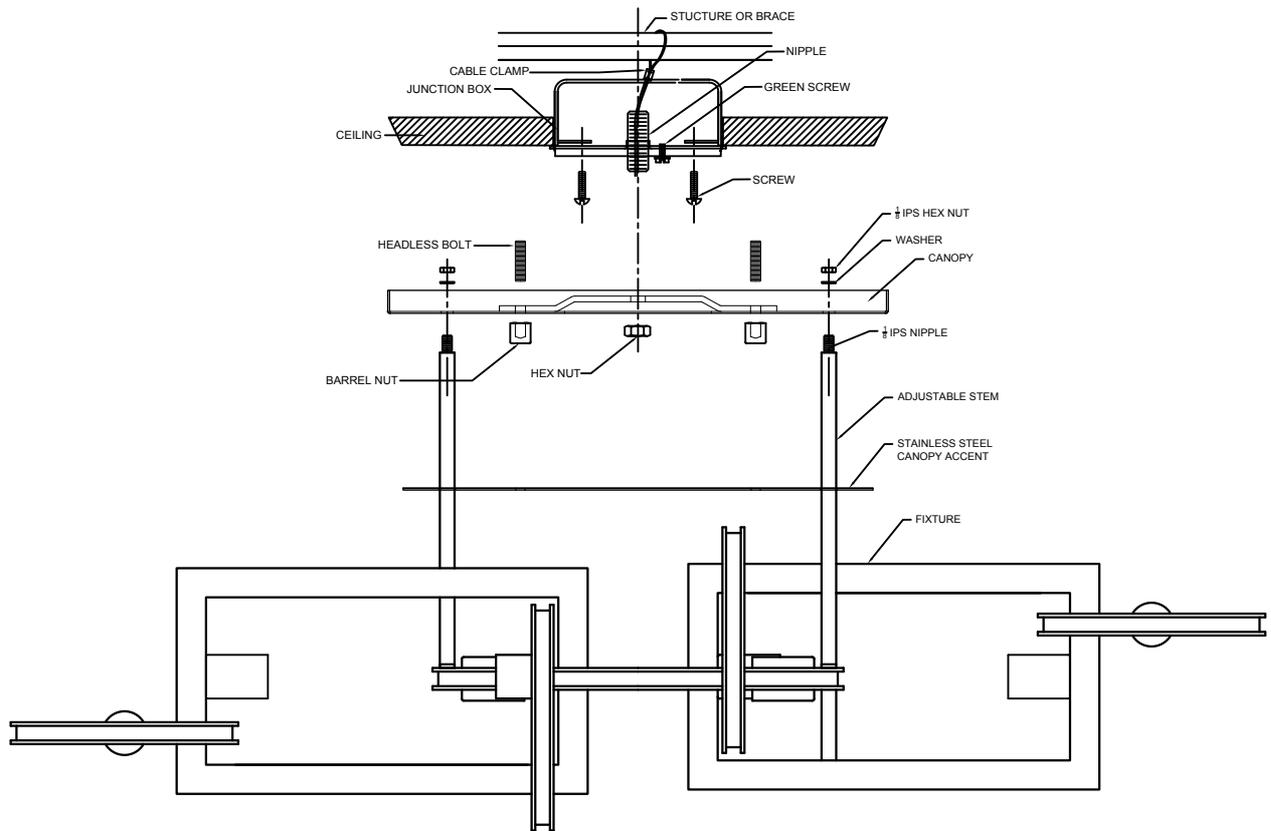

FIGURE-02
- Determine the overall desired length of the fixture. Assemble the adjustable stems one at a time onto the fixture leads. Tape the end of the leads to a stiff wire (coat hanger) to aid in pulling them through the stems. Place the stainless steel canopy accent onto the stem then mount the canopy on the end of the stems and secure it with washers and nuts. (See Figure-02)
- Place the headless bolt to the canopy that extend 3/8" beyond the canopy, then hang the fixture to the mounting strap by fastening the canopy to the nipple using hex nut. Then attach the SAFETY CABLE to the building or structure or brace. (See figure-02)